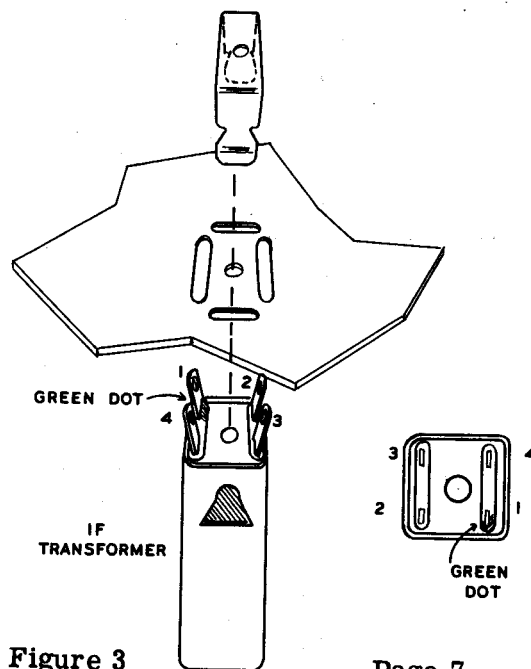

Figure 3
- ( ) Mount an IF transformer from top of chassis in position F. Green dot should be located nearest socket E. Hold transformer in place and press IF transformer mounting clip over it from inside chassis as shown in Figure 3. Clip should engage cutouts on opposite sides of transformer.